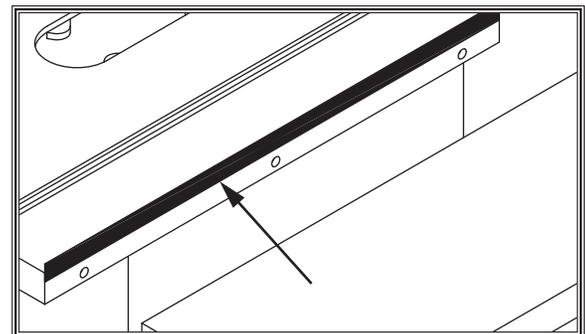

Figure 20. Masking tape location for tilting extension wing down.
- If outside end of extension wing tilts up, place strip of masking tape along top edge of main table to shim end of extension wing down (see **Figure 20**).